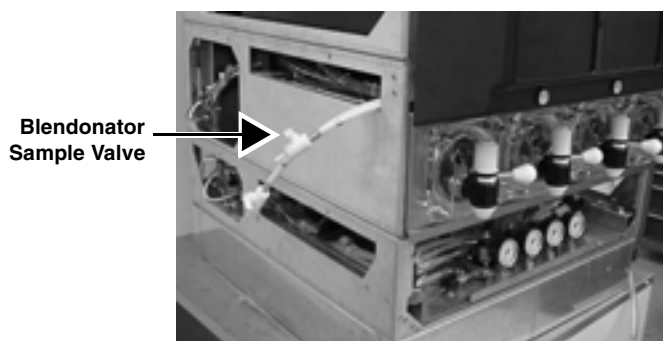

FIGURE 4
- Open blendonator sample valve (see Figure 4) until solution flows from the valve, then close the valve.
- Open blendonator sample valve (see Figure 4) until water flows from the valve, then close the valve.
- Open blendonator tank sample valve (see Figure 4) until water flows from the valve, then close the valve.